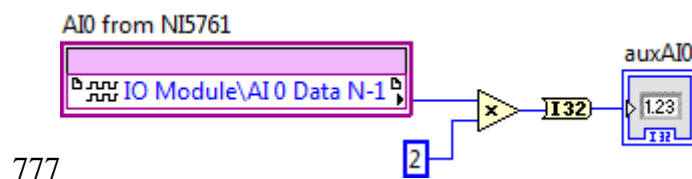

Fig. 13: Example of auxiliary analog input terminal
**auxAI<x>**: I32 indicator. The FPGA designer can include indicators identified as auxAI<x> with LabVIEW I32 data type representing any internal variable in the FPGA. These are the user defined registers and therefore the functionality is totally defined by the designer. For instance (Fig. 13), you can acquire one sample from adapter module analog input channels (I16), operate the data and connect the result to an I32 terminal labelled as auxAI0. The maximum number of auxAI is 16.